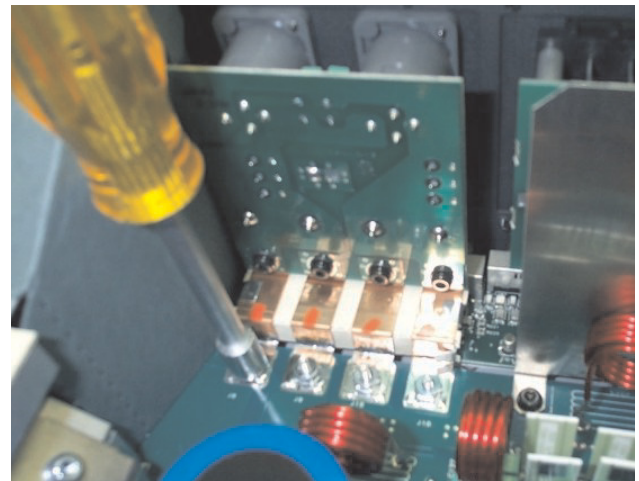

Figure 4.5 Output Bus Bars
1. Remove the four nuts on the Main PWA that hold the output buss bars to the Main PWA (see Figure 4.5).